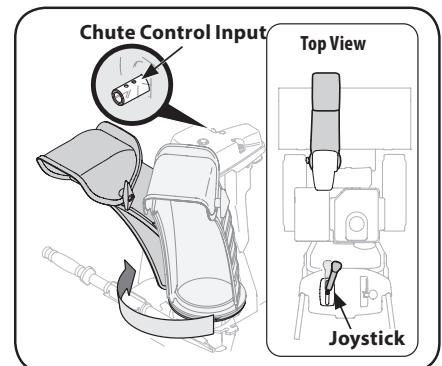

Figure 2-26
4. Squeeze trigger on joystick and rotate chute by hand to face forward. The holes in chute control input will be facing up. See Figure 2-26.